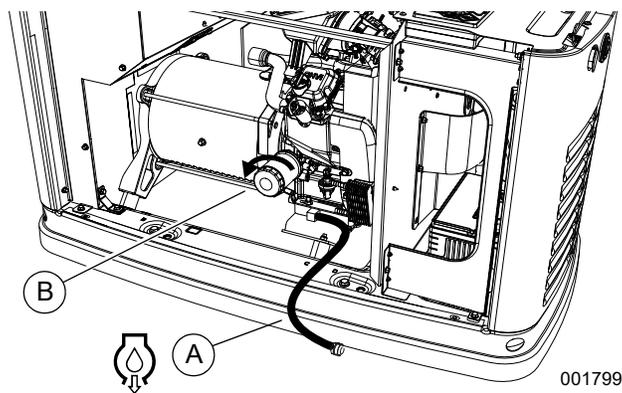

Figure 4-3. Oil Filter and Drain Location
3. See Figure 4-3. A few minutes after engine stops, and when it has cooled slightly, remove front panel. Pull oil drain hose (A) free of retaining clip. Remove cap from hose and drain oil into a suitable container.